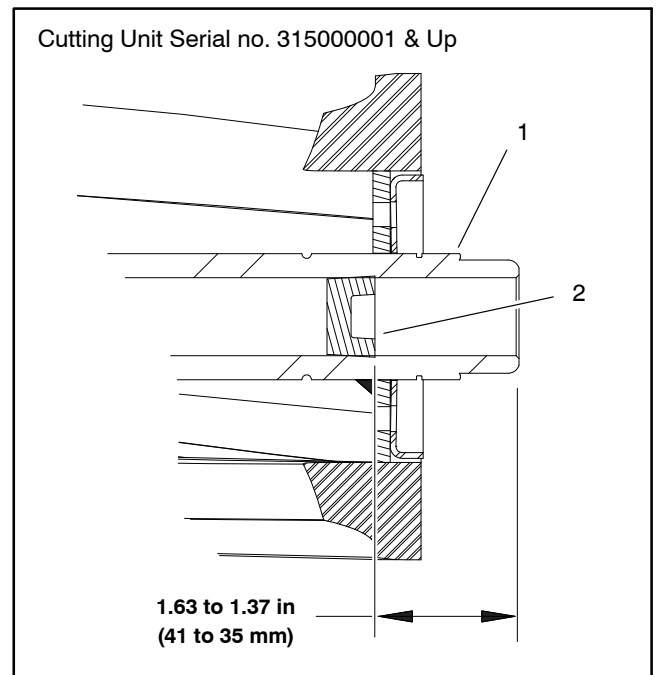

Figure 41
1. If removed, install new reel shaft plugs into cutting reel shaft. For cutting unit serial no. prior to 315000001, make sure plastic plug is pressed flush into end of threaded insert. For cutting unit serial no. 315000001 & Up, make sure plastic plug is pressed unto reel shaft **1.63 to 1.37 in. (41 to 35 mm)** below the end of the shaft (Fig. 41)
3. Make sure that the two (2) retaining rings are fully seated into the grooves on the cutting reel shaft.